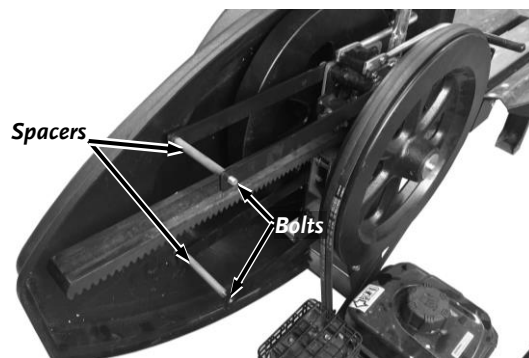

Figure 35
6. Ensure that the Spacers are on the Rear Guard Bolts (**Figure 35**), and reinstall the right side Guard (**Figure 32**).